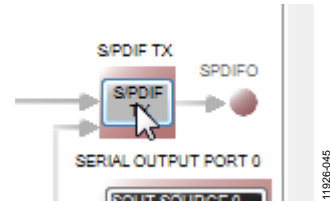

Figure 43. Configuring the S/PDIF Transmitter Routing Matrix Register
- a. Click the **S/PDIF TX** box (see Figure 43).